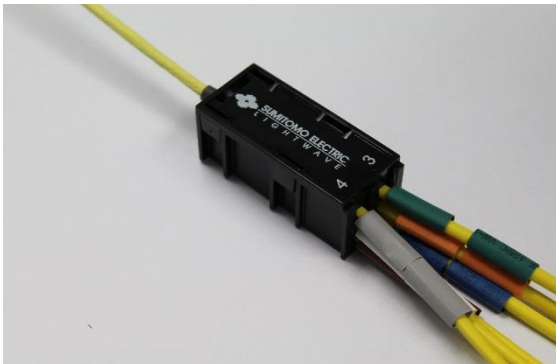

Figure 12
See Figure 12 and 13
7.6 Snap the Breakout Assembly Cover in place. **See Figure 12**